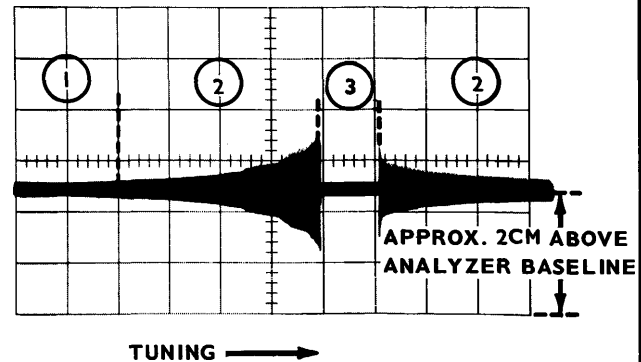

Fig. 2-4. LOCK-CHECK display.
4. Hold in the LOCK CHECK pushbutton and set the RF CENTER FREQ and FINE FREQ controls to the closest phase-locked range. (Figure 2-4 shows the display that results from depressing the LOCK CHECK pushbutton while turning the RF CENTER FREQ control through a phase-locked range. In actual practice, the RF CENTER FREQ control is usually set to center the desired RF INPUT signal and phase lock is accomplished by readjusting the FINE FREQ control.)